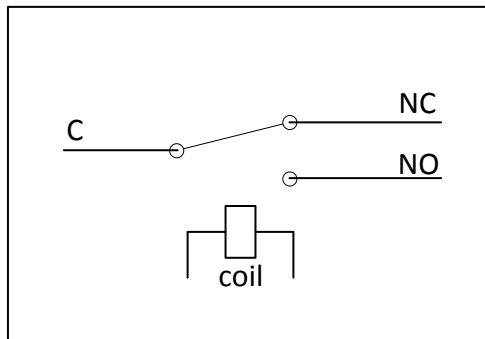

Figure 29 Functional diagram of SPDT relay on optional DRI-10 client input/output PCB
The three digital outputs are realized via three SPDT relays on the optional DRI-10 Client I/O device. A functional schematic of the SPDT relay is shown in Figure 29. The switch position is controlled by the DRI-10 via the coil. The user has access to the normally open (NO), normally closed (NC) and the common (C) connection of the relays.